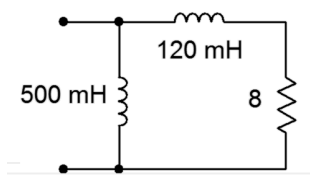

Figure 4.2
2. Determine the impedance of the circuit of Figure 4.2 at frequencies of 20 Hz, 1 kHz and 20 kHz.